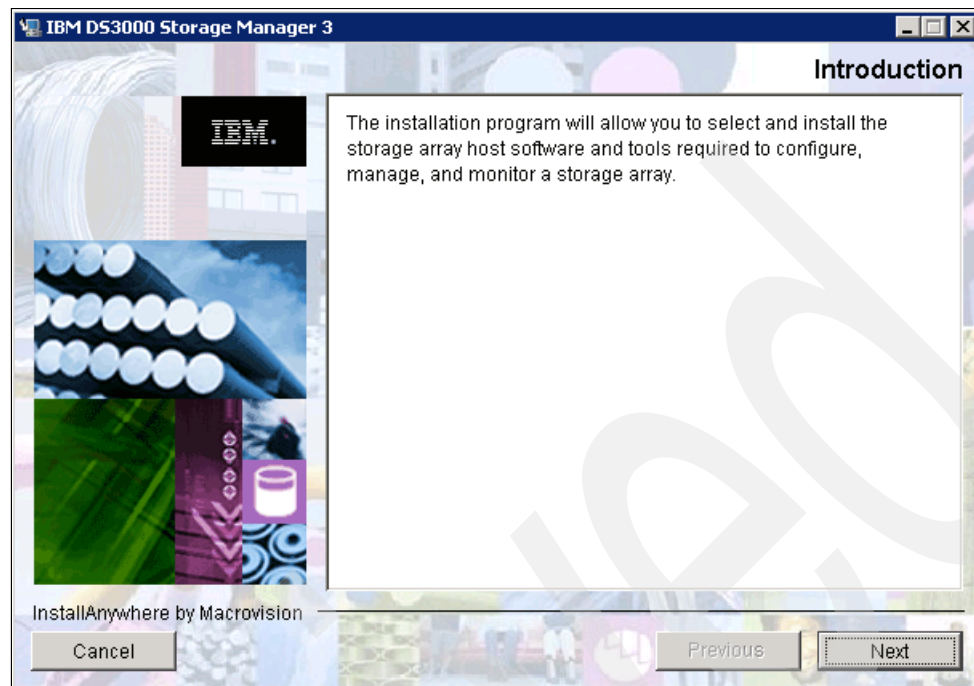

Figure 6-3 Introduction
3. Read the introduction and click **Next**, as shown in Figure 6-3.